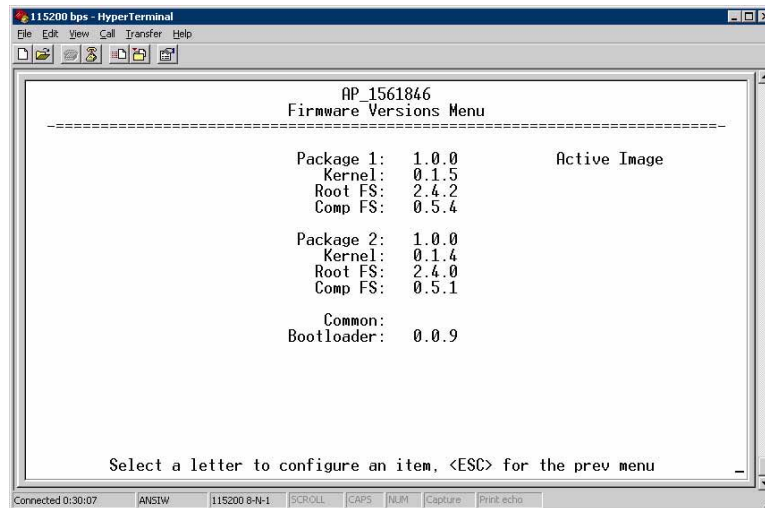

Figure 3-87. Firmware Versions Menu
- ✘ **Firmware Versions** Shows the firmware code versions stored in the radio and indicates which one is the active image. (See Figure 3-87 on Page 114.)